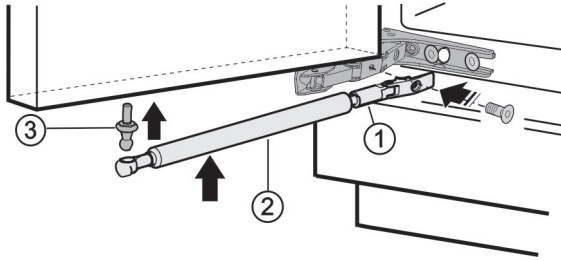

Fig. 7
- ▶ Screw the ball stud Fig. 7 (3) firmly into the new fastening hole (**with 4 Nm**) (Torx® 25).
- ▶ Screw on the bracket Fig. 7 (1) **tightly (3 Nm)**.
- ▶ Attach soft stop mechanism Fig. 7 (2) to ball stud.